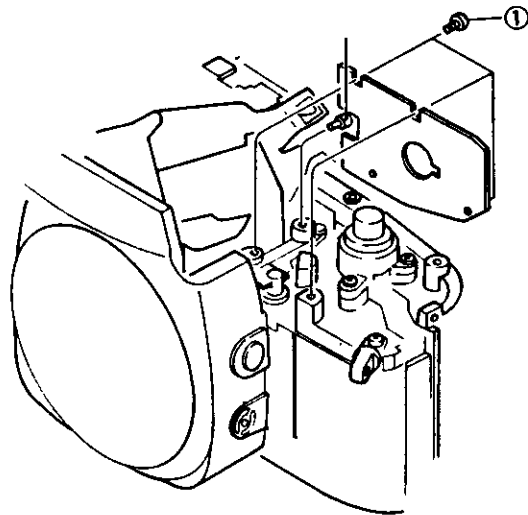

Fig. 8
- 8) Take off three SCREWS shown in Fig. 8.